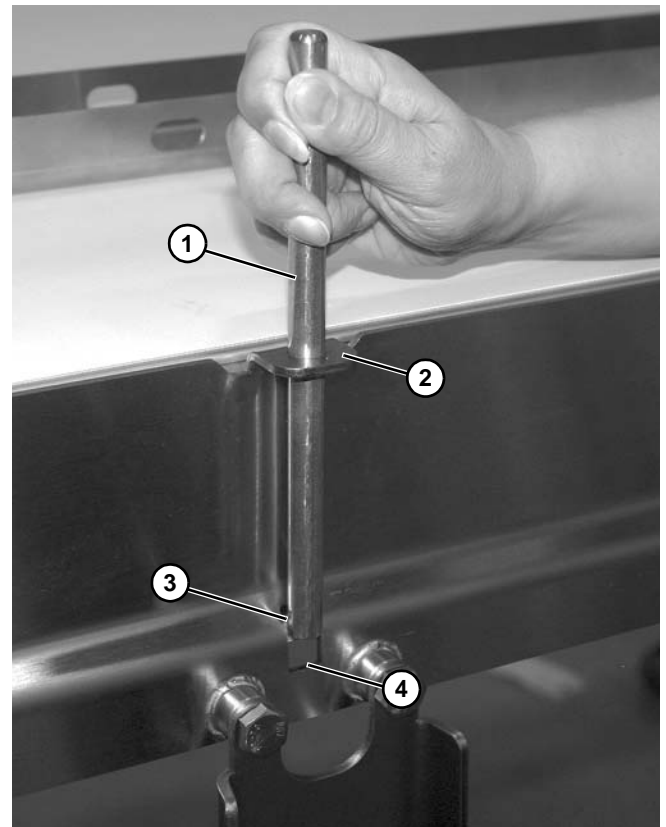

Figure 22
1. Install guide post (Figure 22, item 1) through conveyor side frame tab (Figure 22, item 2), making sure slotted portion (Figure 22, item 3) of post is fully seated into the bottom (Figure 22, item 4) of frame. Tap to lock in place.